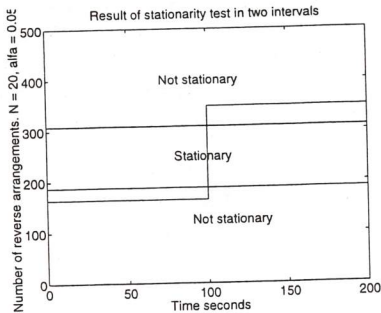

Figure 4. Stationarity test for two intervals.
4. In figure 4, the time history is divided into two intervals, and each one is tested for stationarity. For the signal to be stationary, the calculated number of reverse arrangements should fall between the two lines. We find that neither the first or second half of the signal may be regarded as stationary.